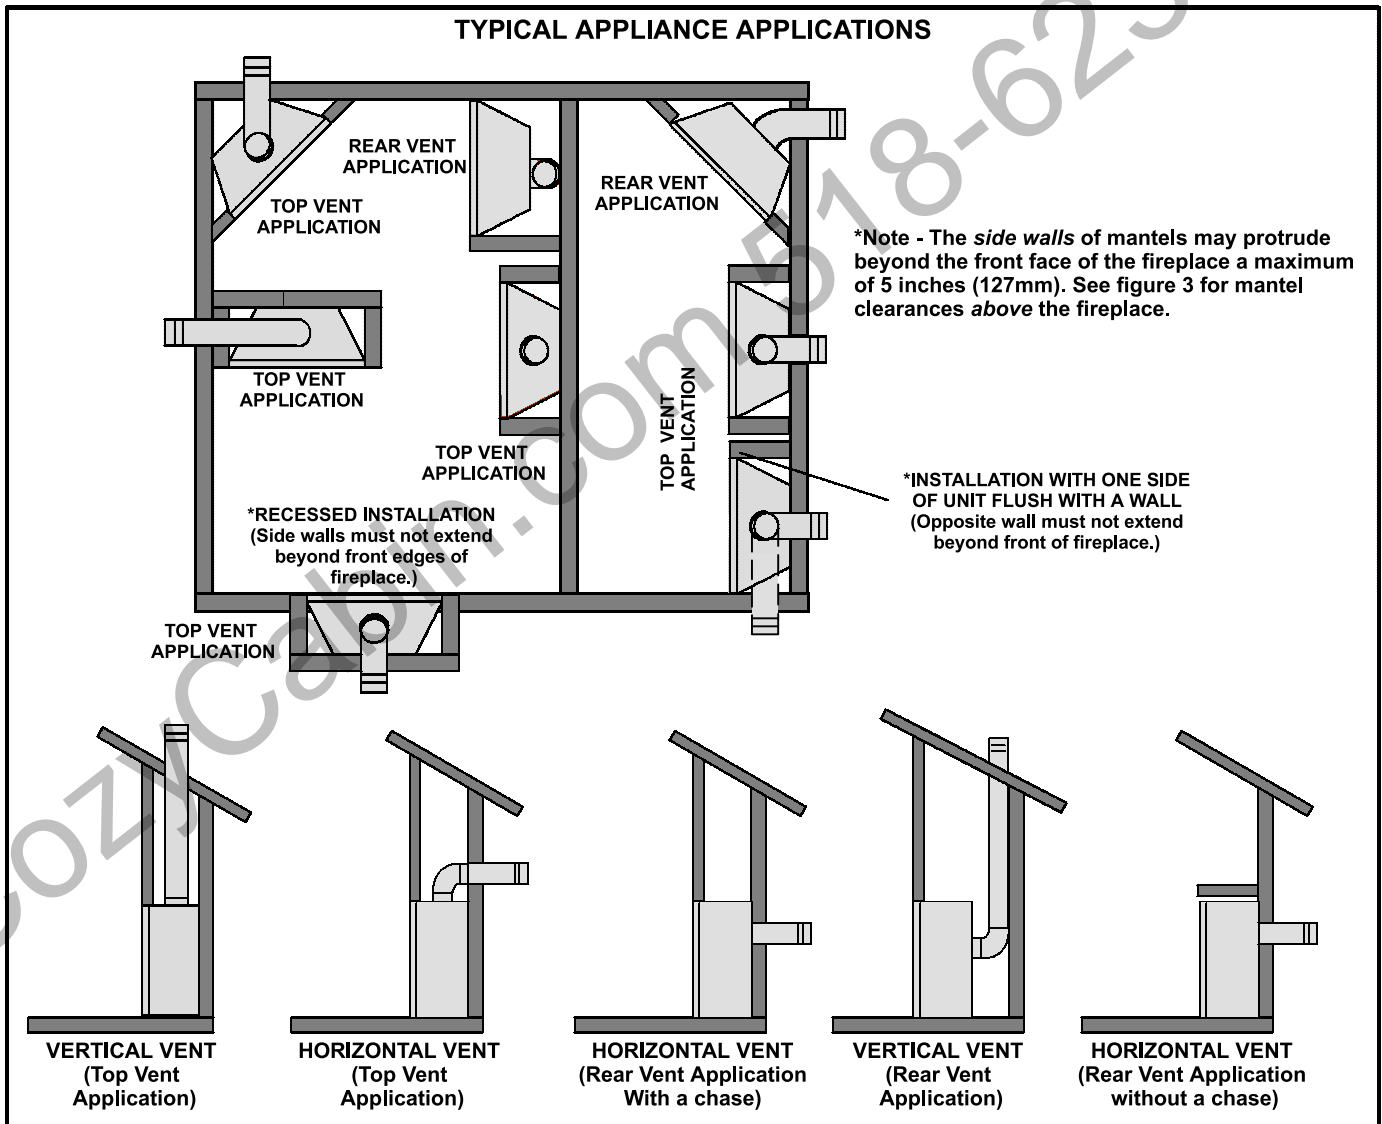

FIGURE 2
- 5 - See figure 2 for typical appliance applications.
The Lennox Elite® Series gas fireplaces are approved with zero clearance to combustible materials on all sides (as detailed in table 2), with the following exception: When the unit is installed with one side flush with a wall, the wall on the other side of the unit must not extend beyond the front edge of the unit. In addition, when the unit is recessed, the side walls surrounding the unit must not extend beyond the front edge of the unit. See figure 2.